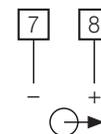

Fig. 4. Measuring output connection.
Connect the output leads for output to terminals ⑦ (-) and ⑧ (+) as shown in Fig. 4.